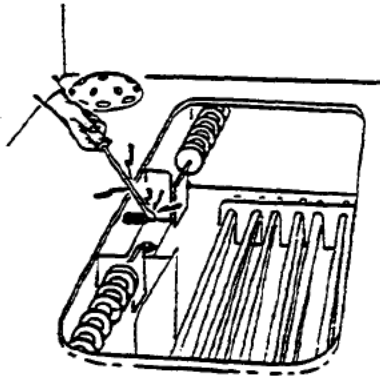

Figure 2-27. Shorting Flood Probe
5. As illustrated in figure 2-27, use a screwdriver to snort the flood probe to ground for four seconds. The FLOOD alarm light flashes. Push the POWER touch pad. The unit will not turn on. The FLOOD alarm light continues to flash.